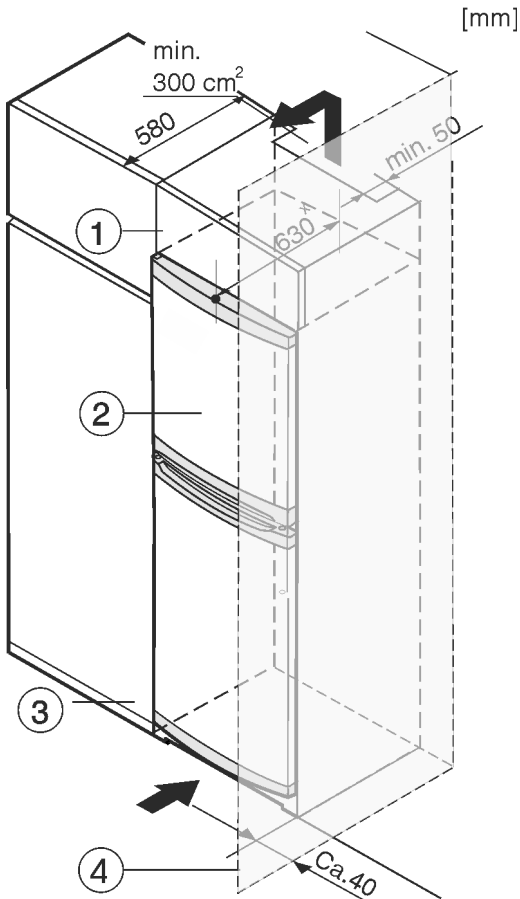

Fig. 8
The appliance can be built into kitchen units. A top cupboard Fig. 8 (2) can be added above the appliance Fig. 8 (1) up to the height of the fitted kitchen units.
When fitting kitchen cupboards around the appliance (max. depth 580 mm), you can install the appliance directly next to the kitchen cupboard Fig. 8 (3). The appliance protrudes 34 mm x to the side and 50 mm x in the centre of the appliance in relation to the kitchen cupboard front.
If the appliance is set up with the hinges next to a wall Fig. 8 (4), the distance between the appliance and the wall must be at least 40 mm. This is how far the handle protrudes when the door is open.